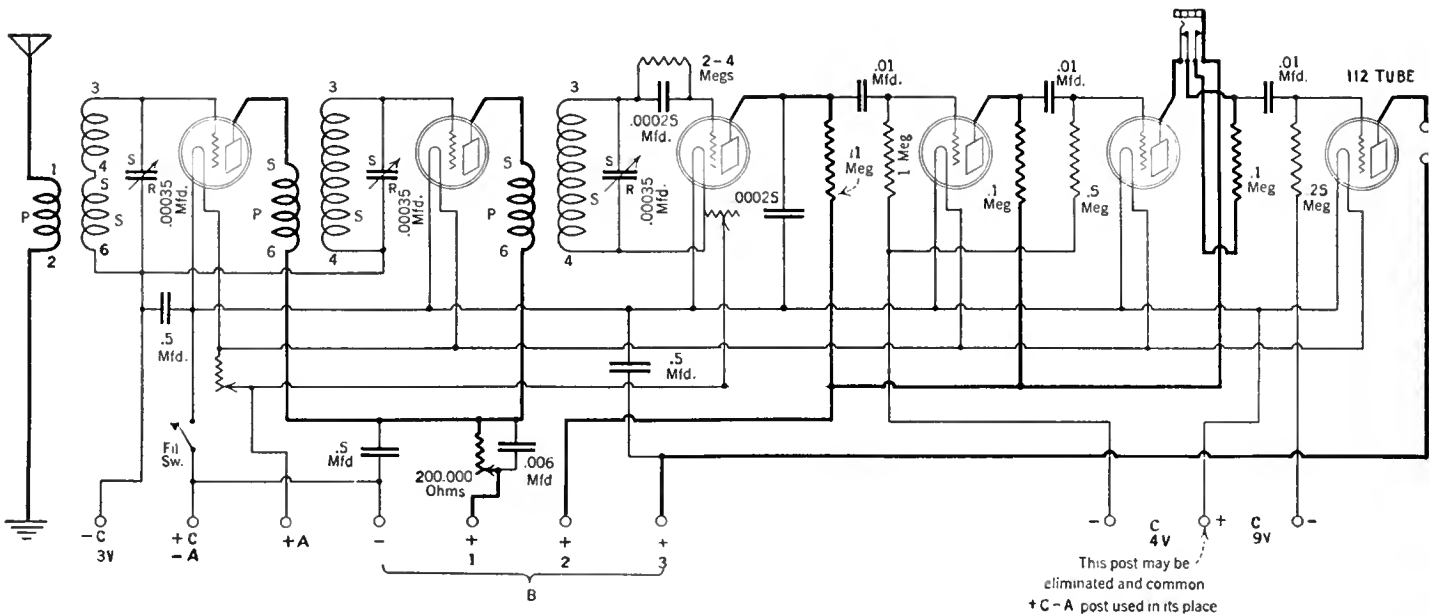

FIG. 1
4. plus B 90; 5. plus B 135. Reference to the modified circuit diagram, Fig. 1, will make this suggestion quite evident.
merely necessary to disconnect the wire leading from the detector secondary to the grid post of the detector socket and insert in this opening, the grid leak and detector. A .00025-mfd. condenser is satisfactory and is shunted by a leak of 2 to 4 megohms. The lower side of the detector secondary coil, terminal No. 4, does not connect to the minus C line but is brought directly to the positive terminal of the detector socket. These changes are shown in Figs 1, 2 and 3.
This is the original circuit showing how either transformer- or resistance-coupled audio frequency amplification may be used. A comparison between this and the circuit shown in Fig. 1 will make obvious the alterations